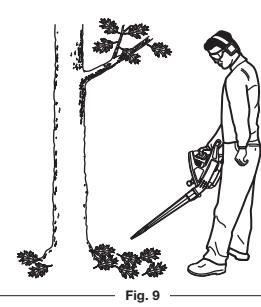

Fig. 9
2. Hold the unit with the blower outlet several inches above the floor or ground (Fig. 9).